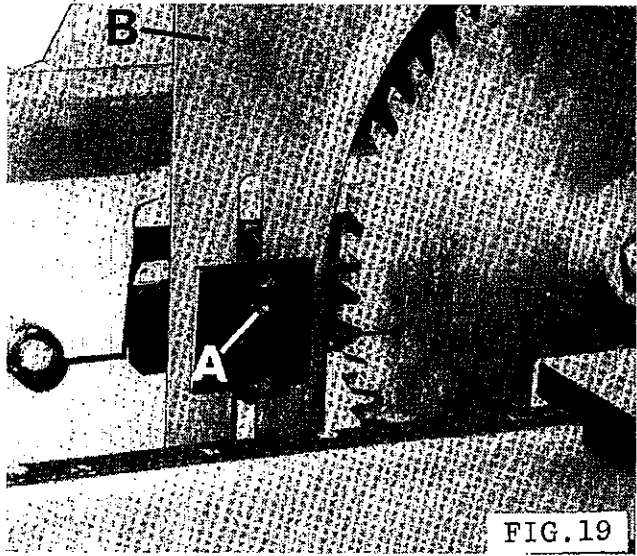

FIG. 19
- 2 Move sliding table for access to riving knife adjustment FIG.19.